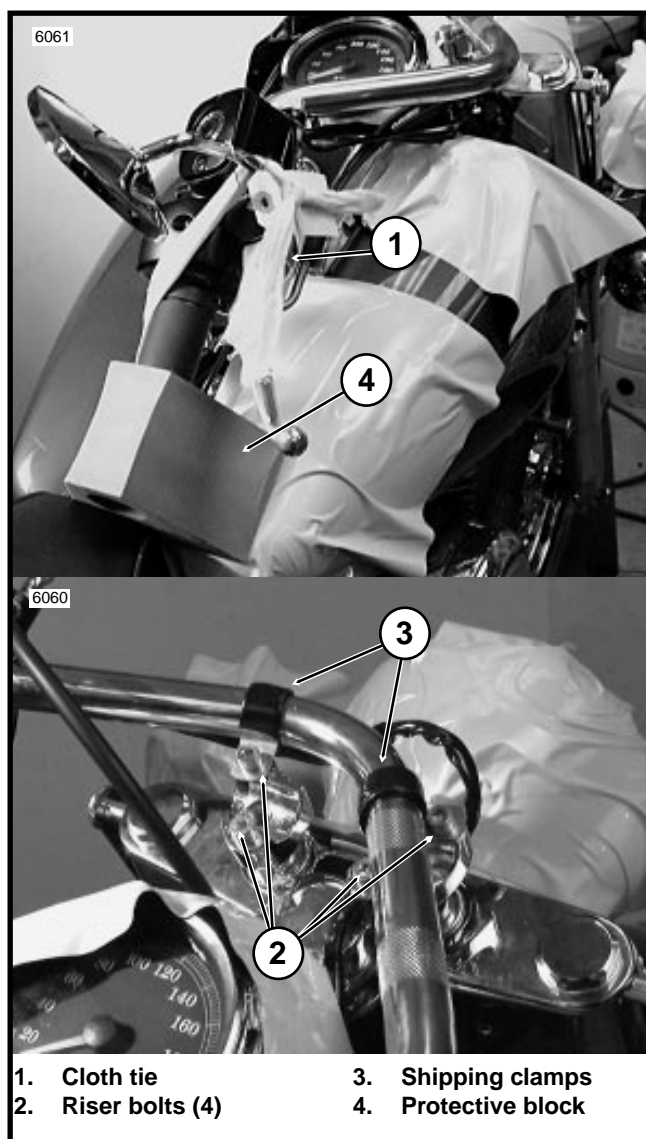

Figure 5
1. See Figure 5. Remove cloth tie (1) securing handlebar.
2. Remove the four bolts (2) from the riser. Retain the four bolts.